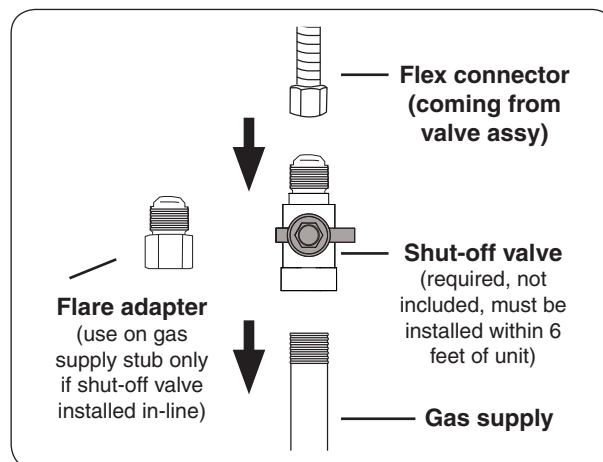

Fig. 30-1 Connecting to a gas line
- Connect the flex connector to the shut-off valve (see Fig. 30-1). Tighten securely.
- Install the supplied flare adapter to the gas supply using a pipe joint compound resistant to all gasses (see Fig. 30-1). Tighten securely.
- Connect the flex connector to the flare adapter (see Fig. 30-1). Tighten securely.